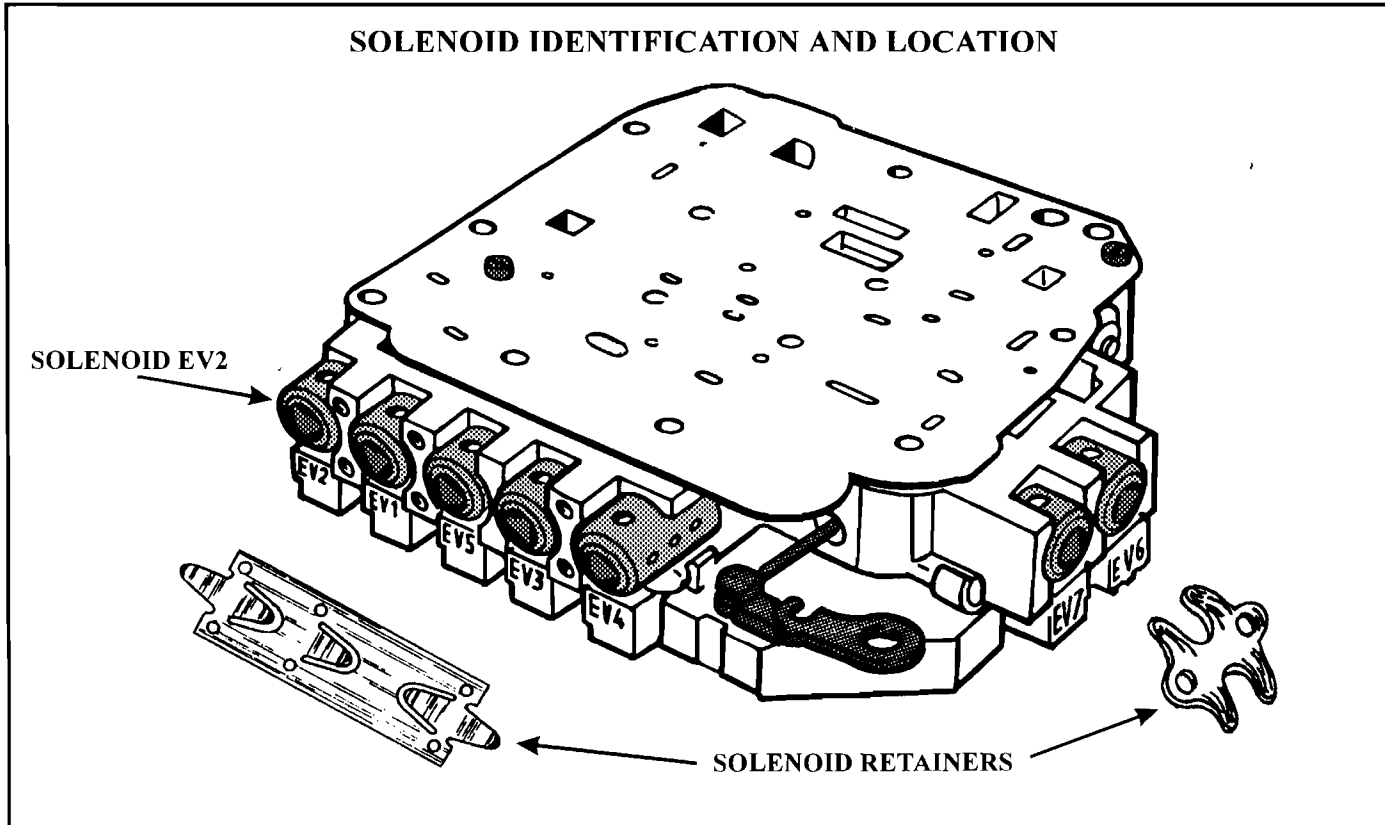

Figure 1
- (1) Unplug the solenoid harness from the solenoids, remove the bolts retaining the control valve assembly to the transaxle and place the valve body on a clean work surface. Remove the bolts from the solenoid retaining brackets, and remove only one solenoid (See Figure 1). Leave the remaining solenoids in their respective bores and clean one solenoid at a time, as this will help eliminate the possibility of mixing valves and springs in the wrong bores.
- (7) Repeat the above steps for each solenoid as necessary. Refer to Figure 3 for each solenoids application and description of its particular function. Refer to Figure 1 for solenoid identification and its location in the valve body.